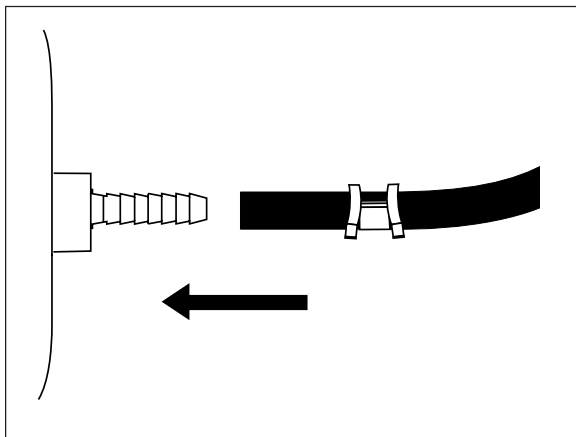

Figure 6
6. Push the air line onto the stem, covering all the barbs (Figure 6). With the pliers, slide the air line clamp upward until it fully covers the barbed section.
7. Push the remaining air line over the last fitting on tee and route along frame to desired inflation valve location (Figure 6). Attach with plastic straps or wire.
5. Push the air line onto the stem, covering all the barbed section (Figure 6). With pliers slide the air line clamp forward until it fully covers barbed section.